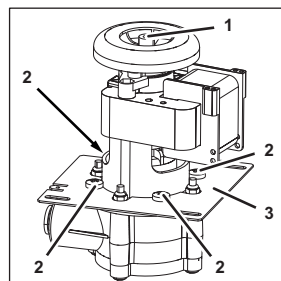

Figure 51
5. Remove the fastening bolts (Figure 51/2) from the circulation pump (Figure 51/1).
6. Disconnect the circulation pump mount (Figure 51/3) from the circulation pump (Figure 51/1).
7. Attach the circulation pump (Figure 51/1) to the circulation pump mount (Figure 51/3) using the fastening bolts (Figure 51/2).